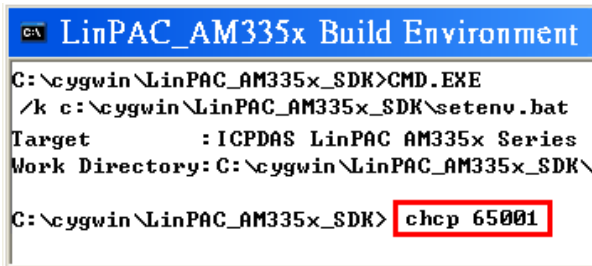
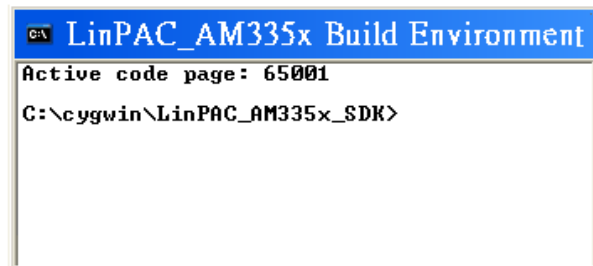

Fig. 3-23
Fig. 3-24
- Type command: **chcp 65001** (Refer to Fig. 3-23 and Fig 3-24).